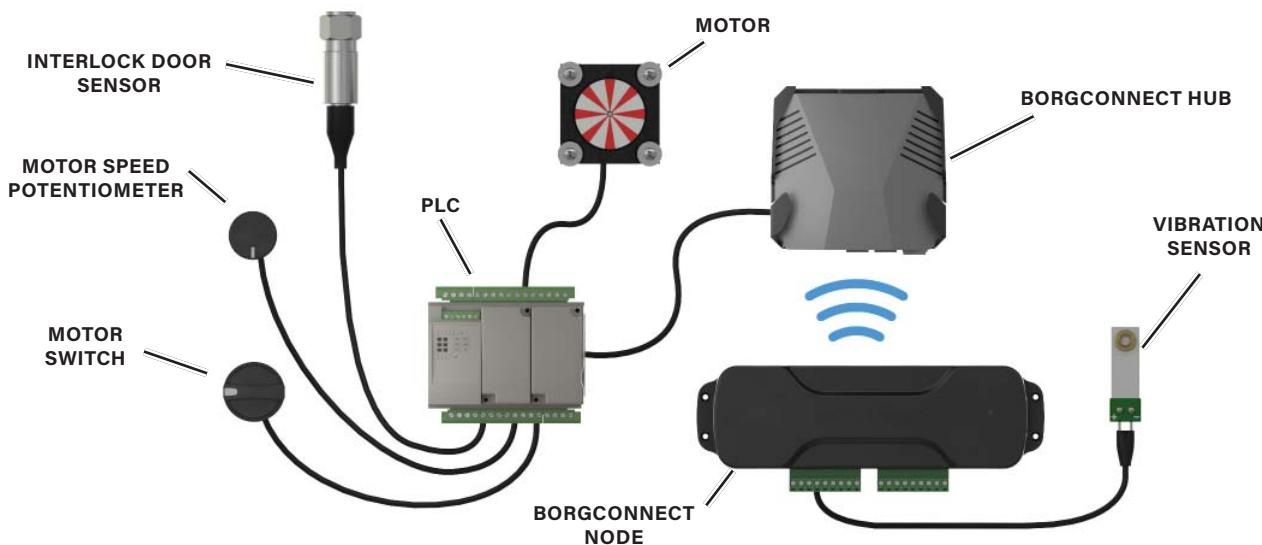
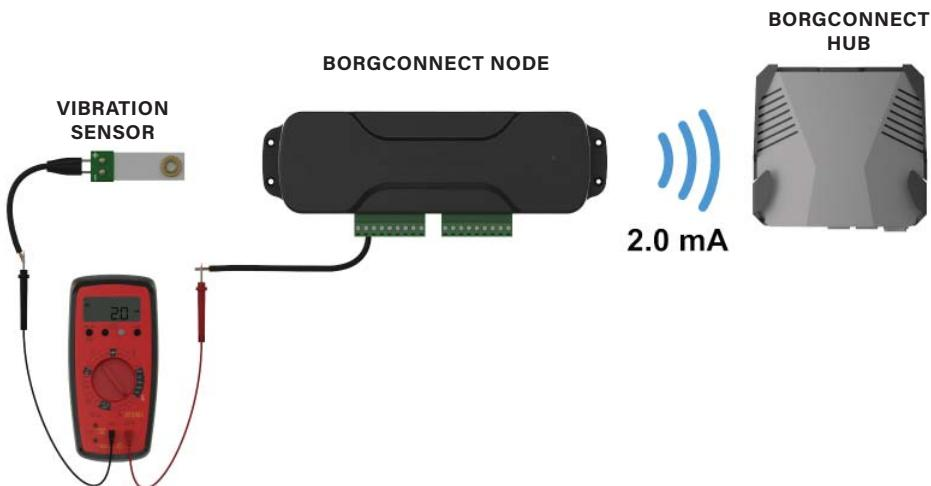

Figure 7-4. Diagram of Production Application Inputs and Outputs with Vibration Sensor
Figure 7-5. Diagram of BorgConnect Node Sharing Data with the BorgConnect Hub
6. Examine the control diagram of the production application and the motor vibration monitoring application in figure 7-4.
Since the piezo vibration sensor outputs voltage, a resistor is added to the circuit to convert the analog signal from voltage (V) to current (mA) using Ohm's law ($I=V/R$). This sensor circuit is wired to one of the BorgConnect Node 50 milliamp (mA) analog inputs, as shown in figure 7-4. The BorgConnect Node converts the analog signal from the sensor circuit into a digital signal. The BorgConnect Node transmits the digital signal through a Wi-Fi connection with the BorgConnect Hub as shown in figure 7-5.